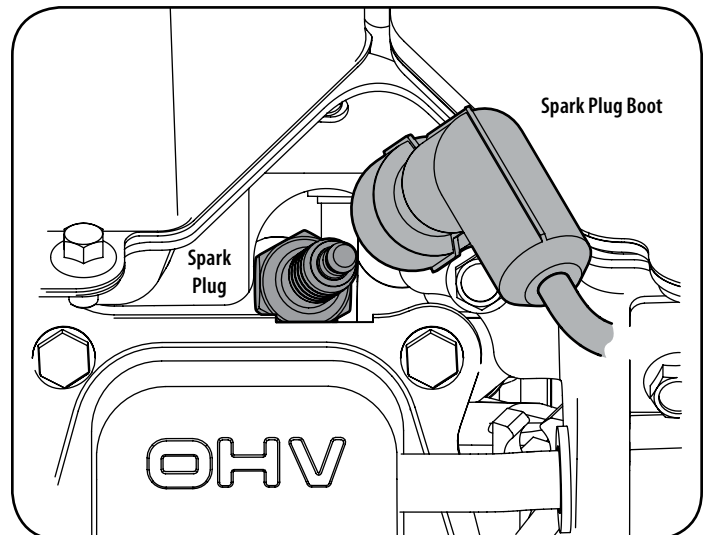

Figure 43
- Remove the spark plug boot and use a spark plug wrench to remove the plug. See Figure 43.